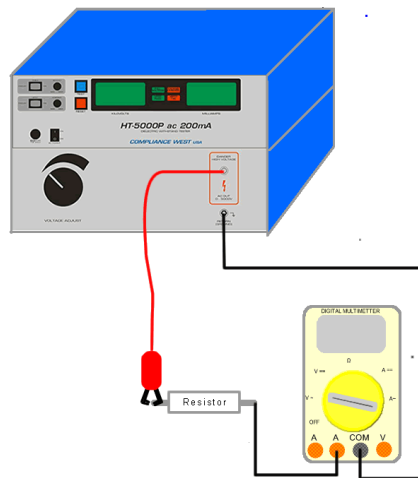

Figure 5-2. Current Measurement with 100 W High Voltage Resistor.
2. Connect the output of the HT-5000P ac 200mA through a 1000 watt high voltage load resistor (25k Ω) in series with an external current meter returning to the Return jack on the front panel of the HT-5000P ac 200mA as is shown on figure 5-2.
2. Connect the output of the HT-5000P ac 200mA unit through a 1000 watt high voltage load resistor (25k Ω) in series with an external current meter returning to the Return jack on the front panel of the HT-5000P ac 200mA as is shown on figure 5-2.